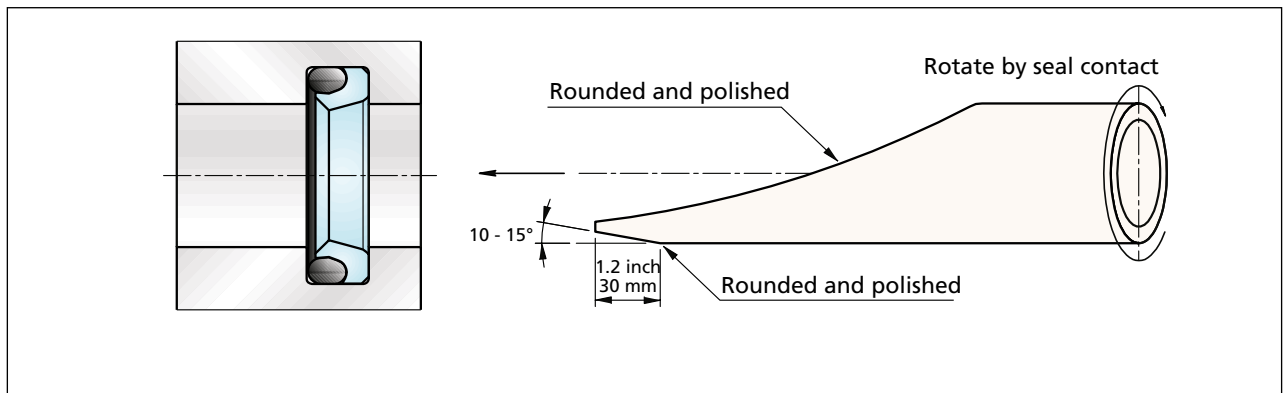

Figure 20 Sizing of the installed seal
- Finally, size the seal ring using a mandrel with a chamfer of 10 to 15 degrees over a length of approximately 1.18 in / 30 mm (see Figure 20).